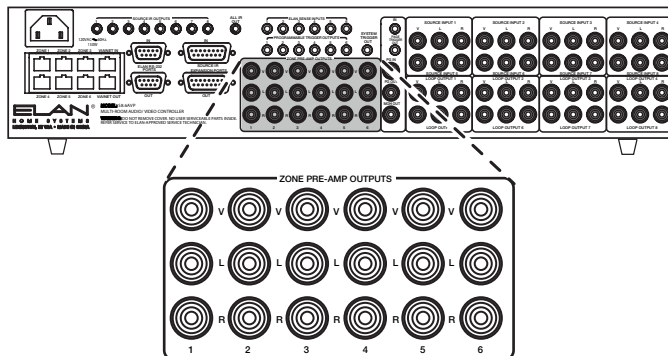
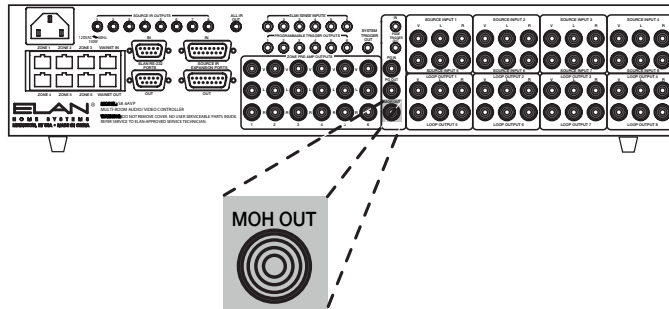

Figure 1-11. Zone Pre-Amp Outputs
Figure 1-12. MOH OUT (Music-On-Hold Output)
The Zone Pre-Amp Outputs (4) provide 6 line-level audio outputs and 6 composite video outputs (see **Figure 1-11**). The Zone Pre-Amp Outputs are either Fixed or Variable depending on the position of the Preamp Audio Output DIP Switch settings (see **Figure 1-12**).